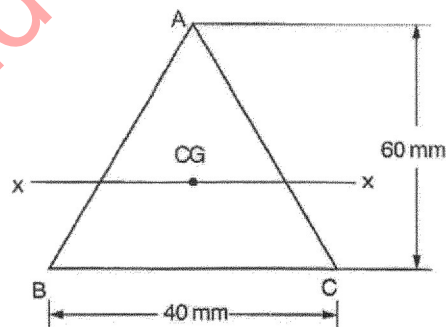

FIG.2
14. Find the radius of gyration of a triangle whose base is 40mm and height is 60mm about an axis passing through C.G. and parallel to base (Fig.2).